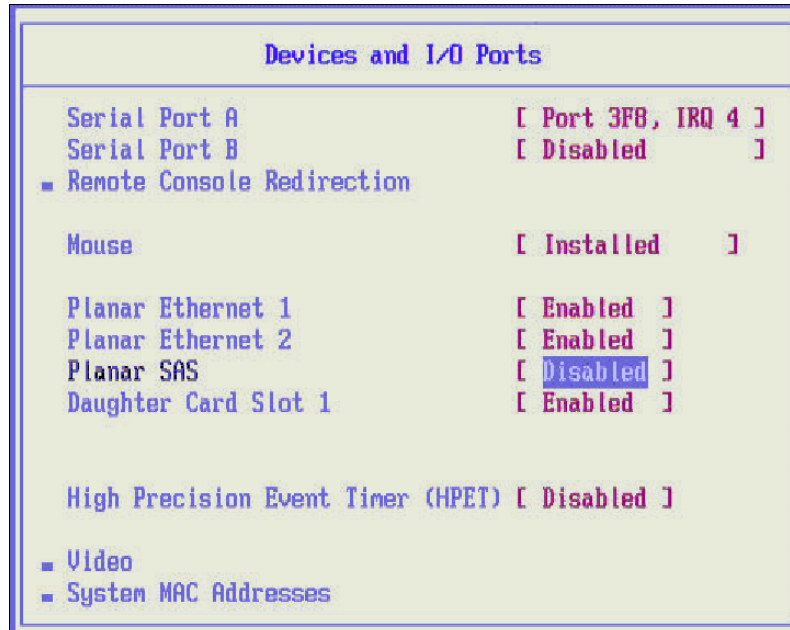

Figure 3-10 Disable Planar SAS
3. Select **IDE configuration** from the next menu and disable the Planar SAS, as shown Figure 3-10.